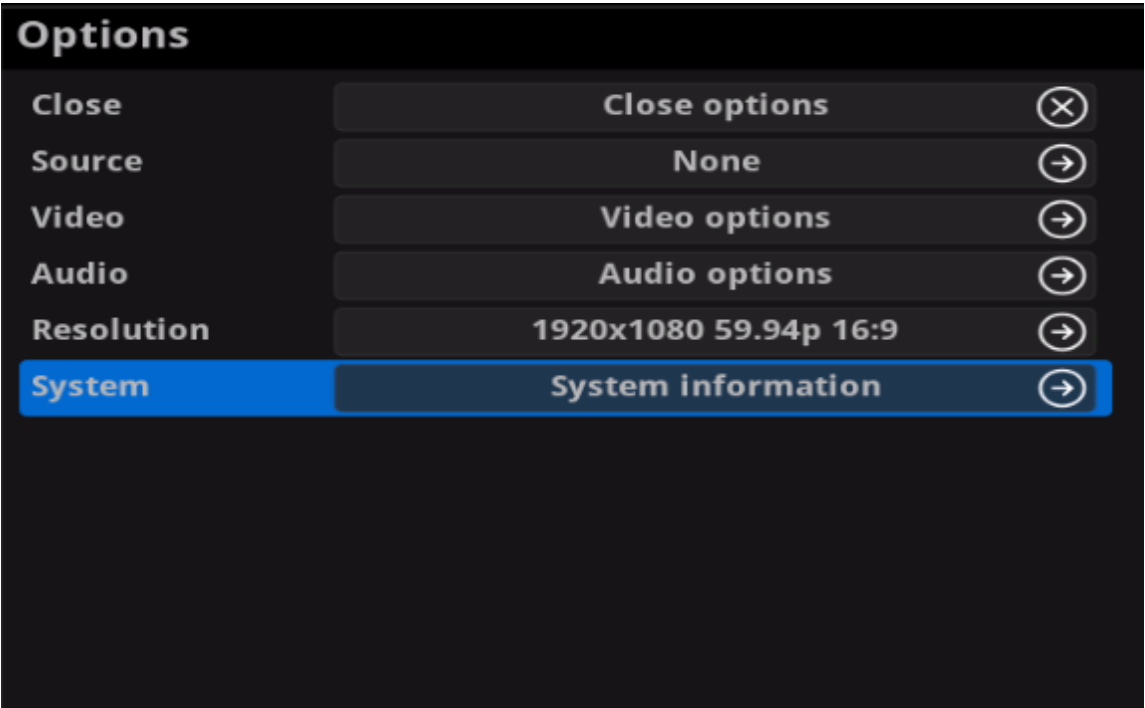

Figure 1 Select System in Options menu
- Connect your decoder via Ethernet, power it up and connect a presentation device as shown in the Figure1. Connections.